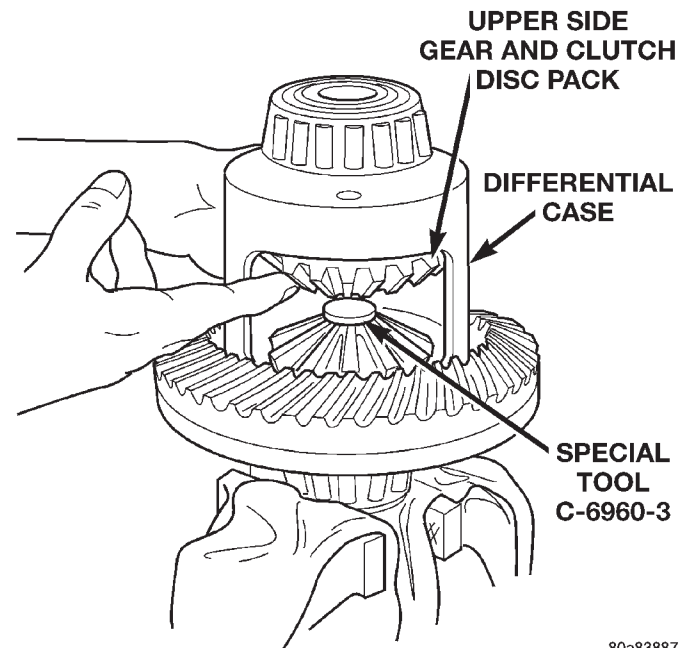

Fig. 63 Upper Side Gear & Clutch Disc Pack Installation
(4) Position the differential case on Side Gear Holding Tool 6965.
(5) Install lubricated Step Plate C-6960-3 in lower side gear (Fig. 63).
(6) Install the upper side gear and clutch disc pack (Fig. 63).
(7) Hold assembly in position. Insert Threaded Adapter C-6960-1 into top side gear.
(8) Insert Forcing Screw C-6960-4.
(9) Tighten forcing screw tool to slightly compress clutch discs.
(10) Place pinion gears in position in side gears and verify that the pinion mate shaft hole is aligned.
(11) Rotate case with Turning Bar C-6960-2 until the pinion mate shaft holes in pinion gears align with holes in case. It may be necessary to slightly tighten the forcing screw in order to install the pinion gears.
(12) Tighten forcing screw to 122 N·m (90 ft. lbs.) maximum to compress the Belleville springs.
(13) Lubricate and install thrust washers behind pinion gears and align washers with a small screw driver. Insert mate shaft into each pinion gear to verify alignment.
(14) Remove Forcing Screw C-6960-4, Step Plate C-6960-3, and Threaded Adapter C-6960-1.
(15) Install pinion gear mate shaft and align holes in shaft and case.
(16) Install the pinion mate shaft lock screw finger tight to hold shaft during differential installation.